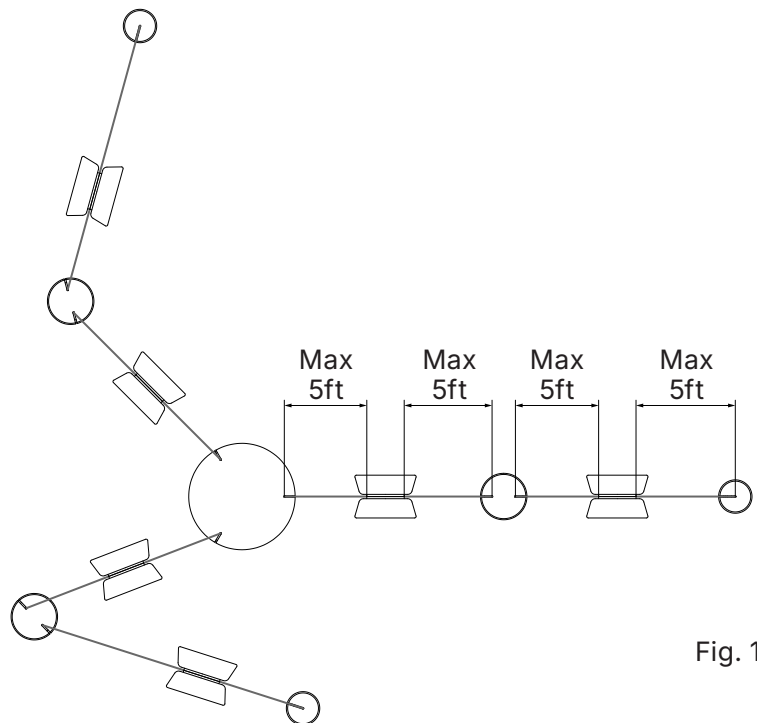

Fig. 1
- Up to two luminaires may be connected in a row from a power feed, with maximum 5ft horizontal distance from canopy to pendant (Fig. 1). It is recommended to have the power supply at a central location (Fig. 1).
3. Remove **Canopy Cover (A)** from the **Canopy Body (B)** using the **Suction Tool (C)** and set aside.
4. Remove **Mud-in Ring (D)** from the Canopy Body and install it into the hole using the attached **Long Screws (E)** and **Ring Tabs (F)** (Fig. 1)
1. Make a 1" slice along the length of the cord's outer jacket (Fig. 1). **CAUTION: Do not cut through the outer braided conductor.**
2. Carefully strip the outer jacket of the cord and keep the outer braided conductors intact (Fig. 1).